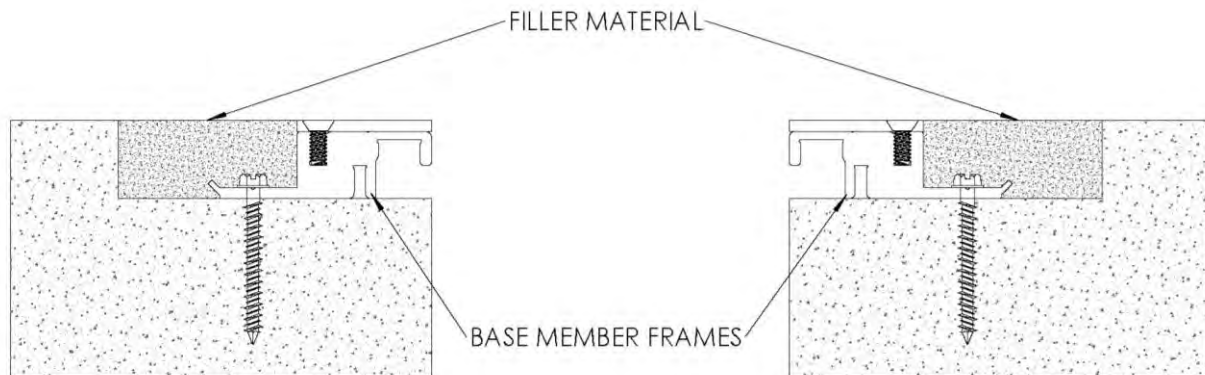

FIGURE 2
2. Protect the exposed surface of the expansion joint, then install grout in the breakout (by others) level with the surrounding floor. **See Figure 2**